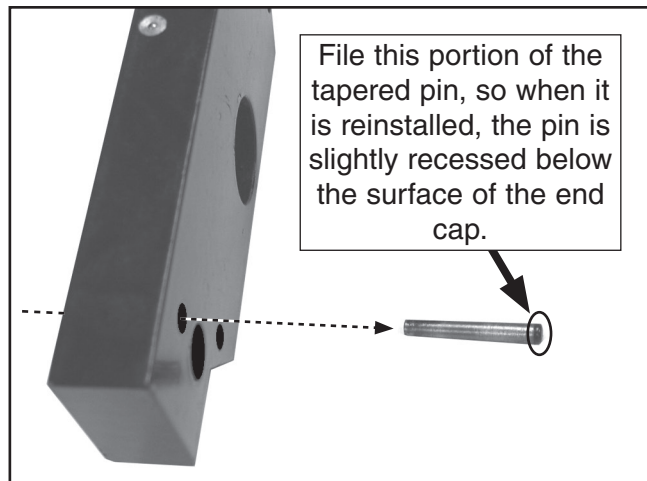

Figure 9. Pin removal.
13. Using a hammer, and working from the inside out as shown in **Figure 9**, drive both wedge pins from the end plate.